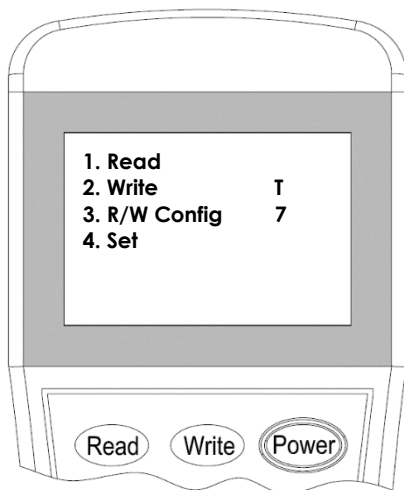

Figure 15
2. Switch-on the programmer, then press button **"4"** to enter to **Setting** mode (Figure 15). The programmer will display the actual configuration after few seconds.